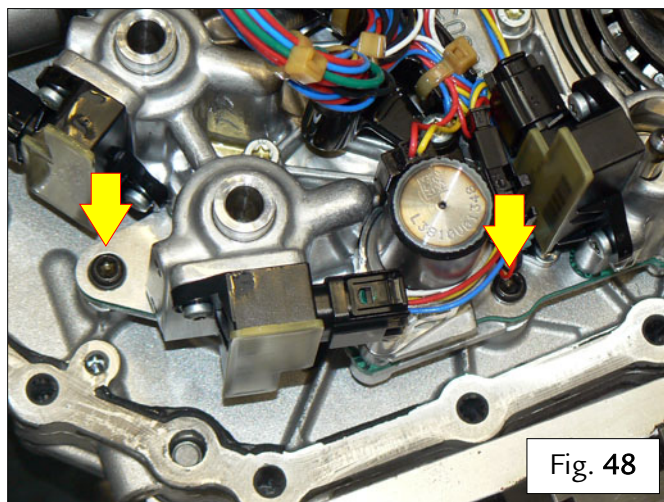

Fig. 48
- Hand-tighten the two new screws indicated fastening the SAP – Fig. 48.